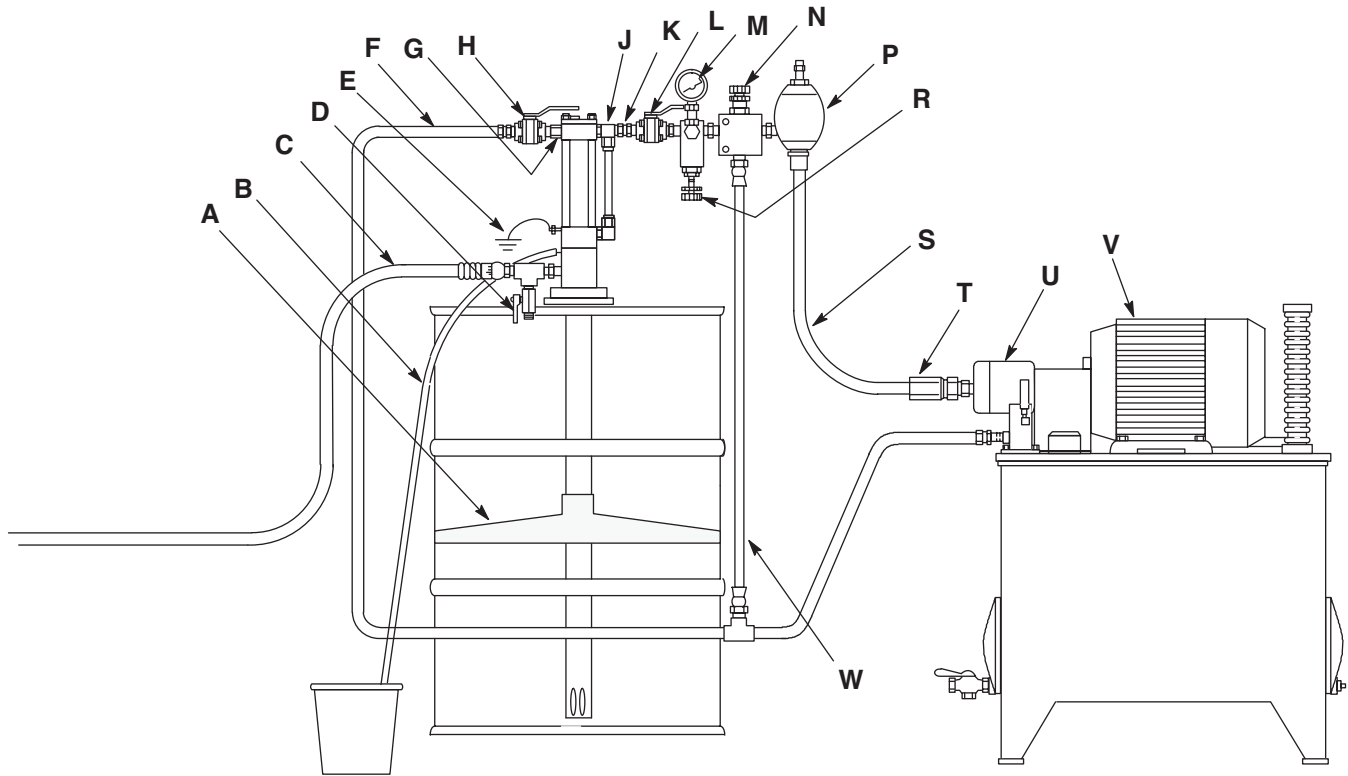

FIG. 2: Typical Installation
Although the installation shown in FIG. 2 is only a guide for selecting and installing system components and accessories, some equipment is required, as noted in the key. For assistance in designing a system to suit your needs, contact your Graco distributor.
Refer to FIG. 2 for the parts mentioned in the following instructions.
2. Close the supply line shut-off valve (L, FIG. 2).
5. Close the return line shut-off valve (H).